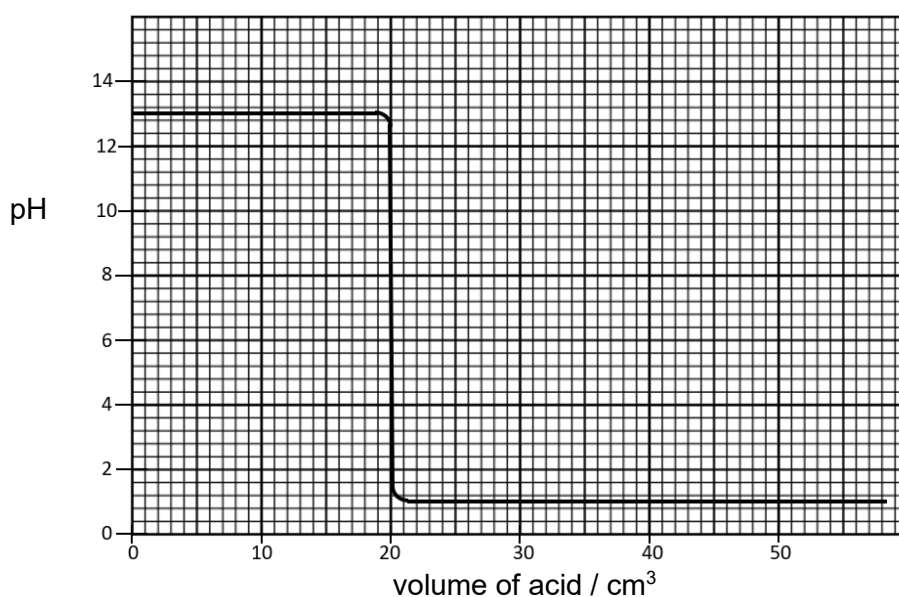

Fig. 6.1
- (b) A pH probe attached to a computer measures pH changes during titration experiments. In experiment 1, 0.25 mol/dm^3 sulfuric acid was added from a burette to 25.0 cm^3 of dilute sodium hydroxide in a conical flask. This is shown in Fig. 6.1.
- (i) Using the information in Figure 6.1, calculate the concentration of sodium hydroxide used in experiment 1.
- (ii) A second experiment was carried out. This time, 0.25 mol/dm^3 hydrochloric acid was added from the burette to 25.0 cm^3 of ethylamine solution of the same concentration as sodium hydroxide in experiment 1 (calculated in (b)(i)) in a conical flask. On Fig. 6.1, sketch the graph you would expect from this experiment. Label as experiment 2. Explain your answer.